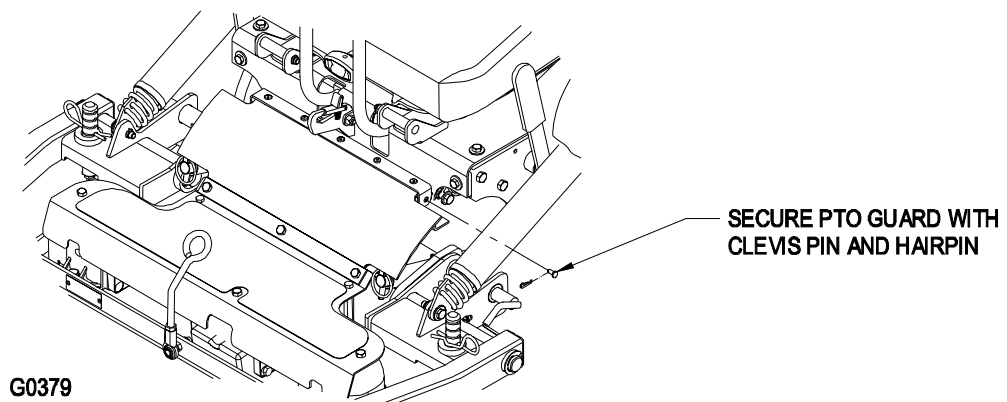

FIGURE 3
- e) Align upper portion of the PTO rubber guard to the tabs on the front of the console and secure with a clevis pin and hairpin on each side. See Figure 3.
- g) Remove hairpin and clevis from both sides of the PTO guard. See Figure 3.
- b) Remove hair pins and clevis pins from both sides of the PTO guard. See figure 3. Fold guard forward.